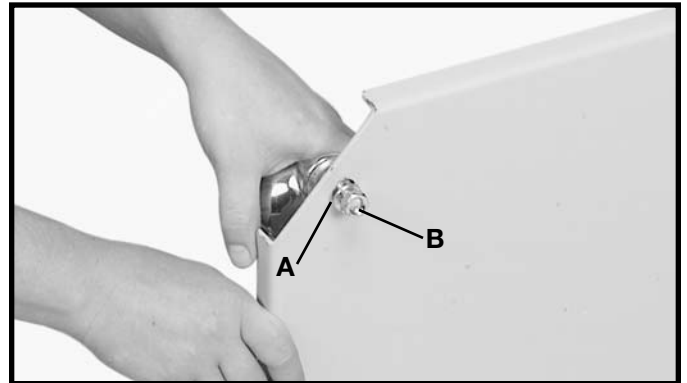

Fig. 4
3. Place a lockwasher (A) Fig. 4 onto each bolt.
4. Thread hex nut (B) Fig. 4 onto each of the four bolts and tighten securely.